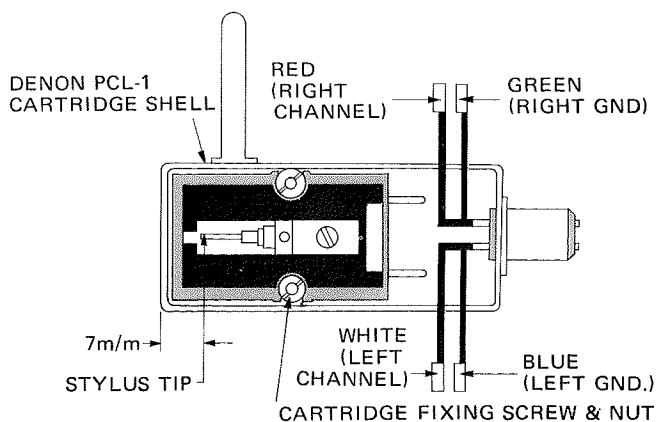

Fig. 8
- As two different length of cartridge fixing screw pairs are prepared as accessories, select one of them suitable for the cartridge you use. Determine the position of the fixing screw head either to face to upper side of the shell or to the body of the cartridge, so that the stylus protect cover can be suitably put on. Utilize the nylon washer attached not to injure the shell. Align the cartridge and the shell in parallel, and in case of DENON PCL-1 cartridge shell adjust the position of cartridge so that the stylus tip comes out about 7m/m off from the top-end of the shell. (See figure 8)
- As shown in figure 8, the lead wires are color-coded; red for right channel (+), green for right ground (—), white for left channel (+) and blue for left ground (—). Carry out connections correctly, paying enough attention for the connection to the terminals on the cartridge side. A wrong connection may cause reversed-channels, abnormal sound image position or hum noise.